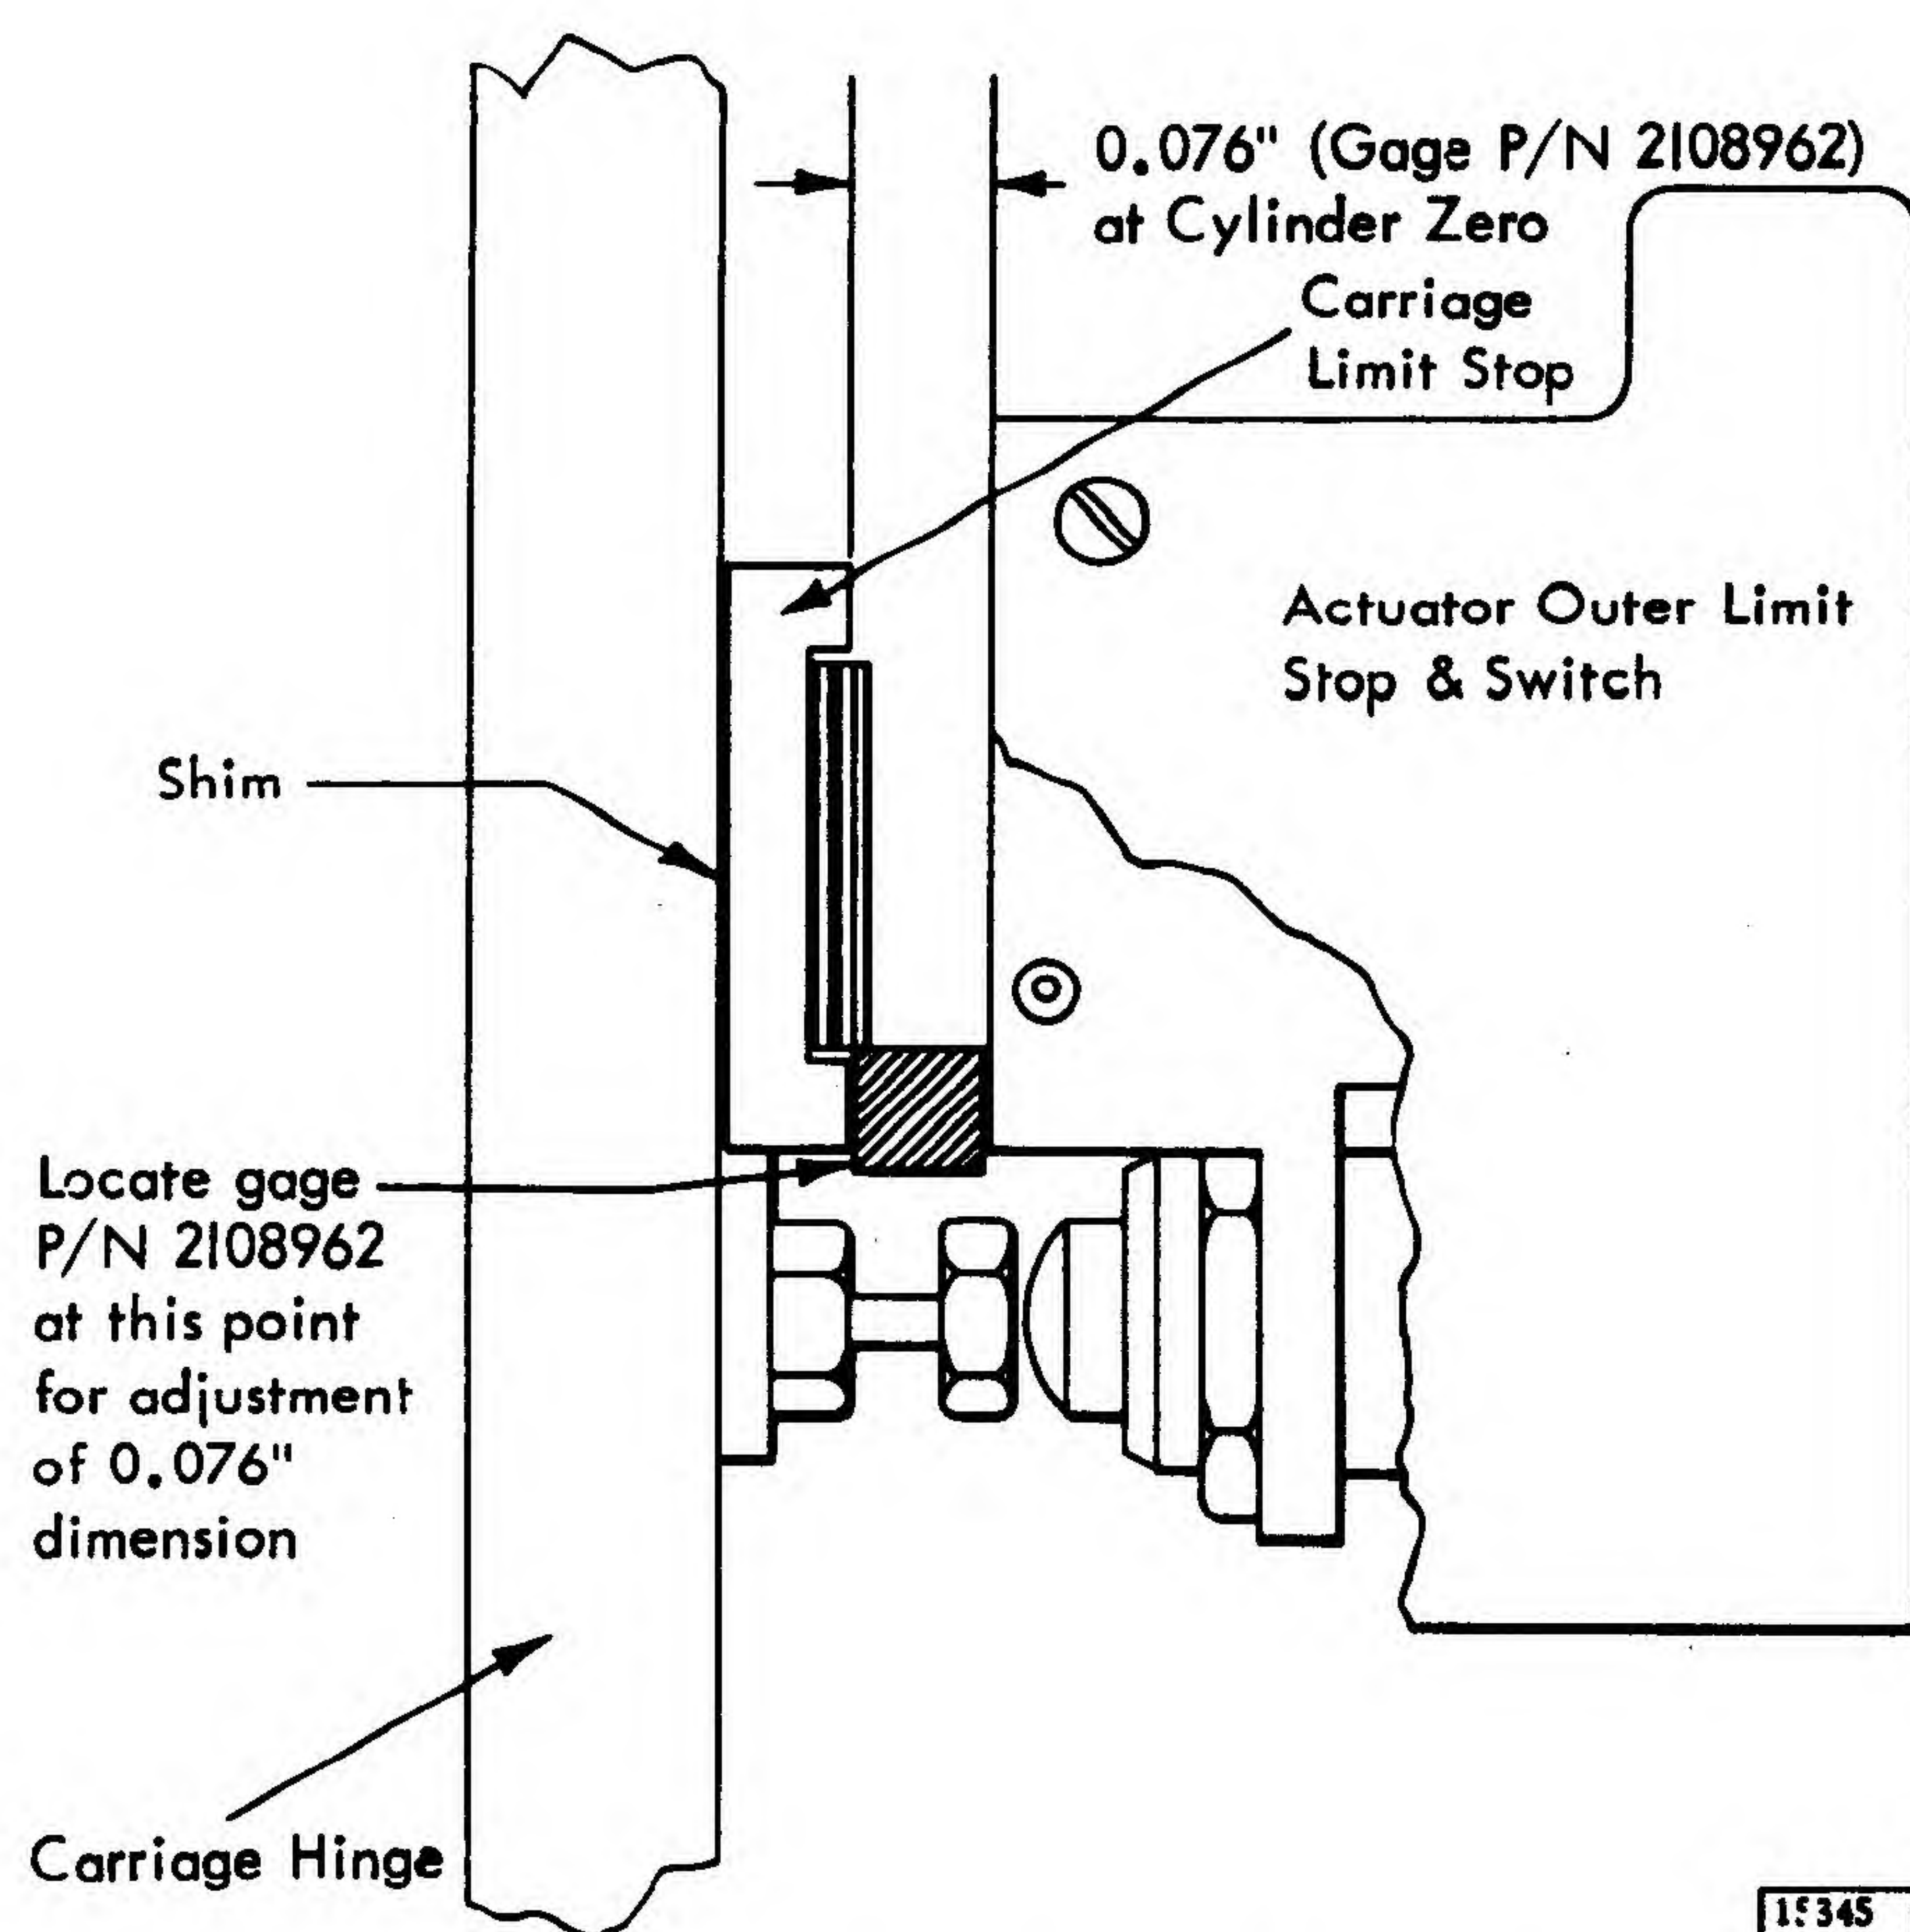

Figure 4-31. Carriage Outer Limit Stop and Switch Adjustment
#### 4.12.2.2 Removal (Figure 4-31)
The outer limit stop, in addition to providing a mounting for the outer and inner limit switches, establishes the basic actuator reference for head-to-disk relationship through the 0.076-inch gap (Figure 4-31). The 0.076-inch dimension is set with Gage P/N 2108962 at the time of final assembly, and the disk surface analysis is made with this gage setting. If this dimensional relationship should be altered by moving the yoke adjustment (differential) screw, or the flexure rod setting, the relationship may be re-established by resetting the 0.076-inch dimension. This can be accomplished with the yoke adjustment screw provided the outer limit stop has not been moved.
2. Place U-shaped Gage P/N 2108791 between outer limit stop and carriage limit stop. While pressing lightly against gage with outer limit stop, fasten outer limit stop just tight enough to hold. Now insert Gage P/N 2108962 in the position shown in Figure 4-31.